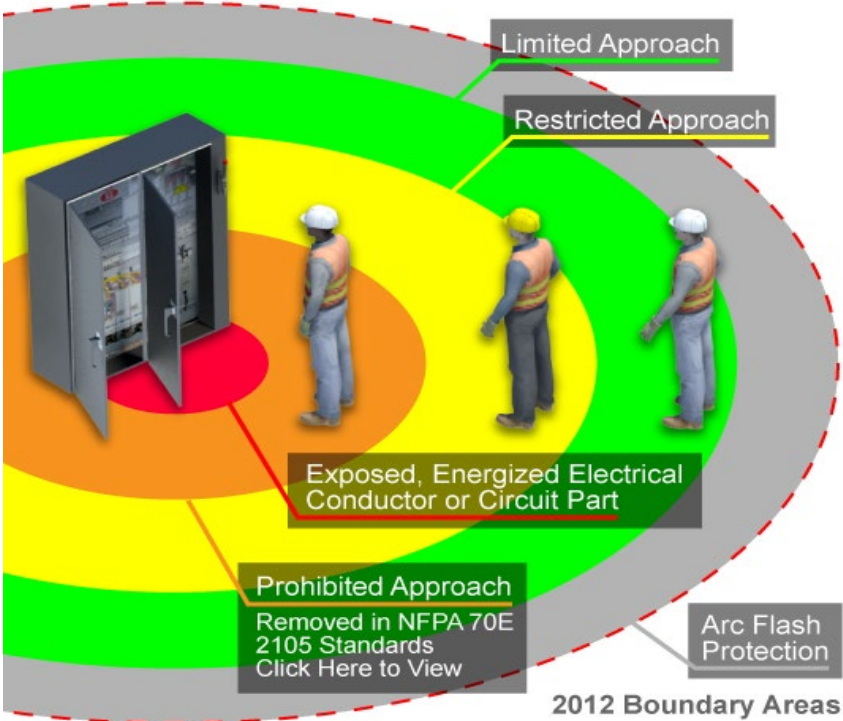

Figure 4.1 – Boundaries
- 6.1** General - For troubleshooting and testing purposes only, qualified persons using proper test equipment and personal protective equipment must adhere to the boundaries shown in figure 4.1 and specified in table 4.1. For adjusting, tightening, calibrating or any other work, the circuits must be de-energized, or employees must use voltage-rated gloves and voltage-rated insulated tools.